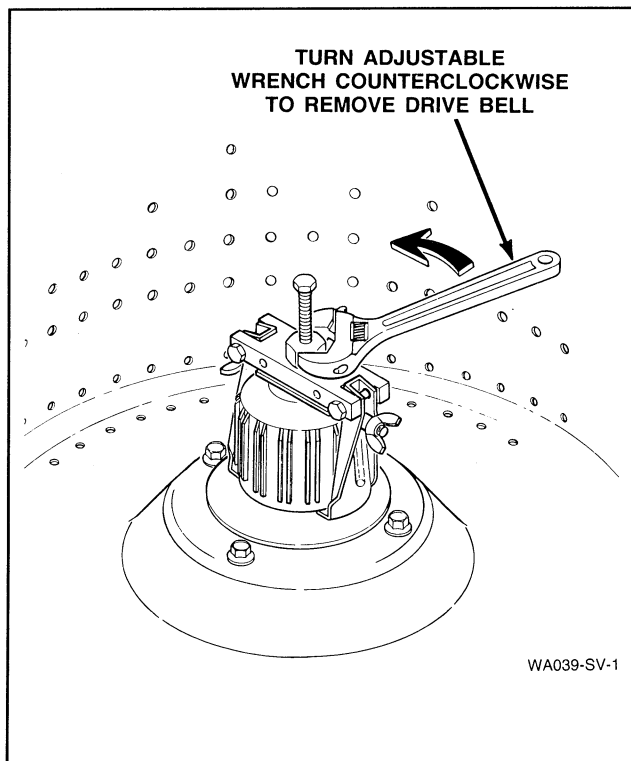

Figure 15
- i. Use an adjustable wrench and turn the large nut on the tool **COUNTERCLOCKWISE** to pull the drive bell from the transmission shaft, *Figure 15.*